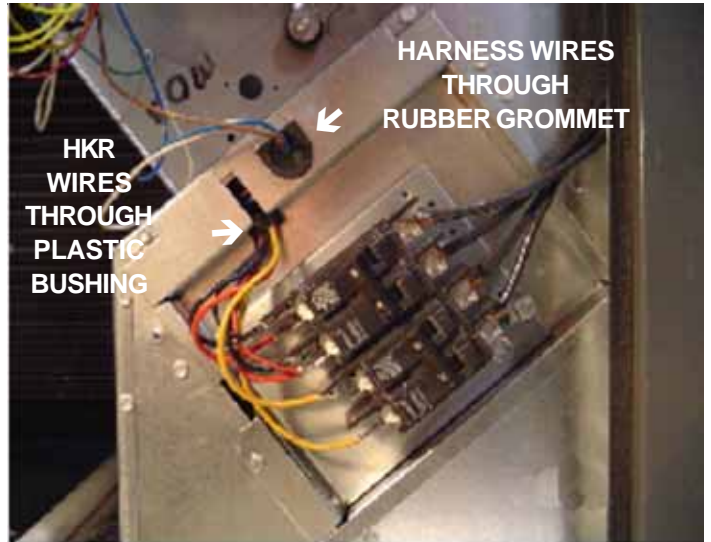

Figure 5
11. Feed 9-pin harness wires through the rubber grommet, and feed HKR wires through the plastic bushing in the rear mounting plate. See Figure 5.